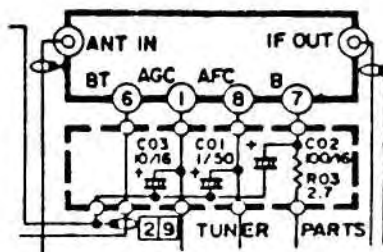
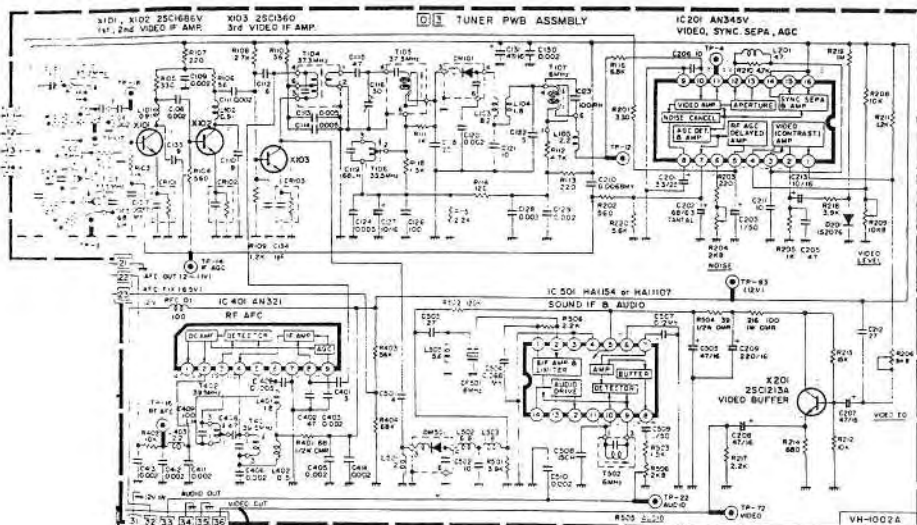

Fig.1 TUNER CONNECTIONS
Fig 2 Tuner PWB Assembly (IF).
Fig.1 shows the connections to the tuner and Fig.2 the circuit of the Tuner PWB Assembly (IF panel). The tuner board is easily recognised by the pre-set controls labelled Video Equ., Noise, Video Level and Audio. Adjacent to the smaller of the two screening cans is a four pin connector labelled 11, 12, 13 & 14. The plug connected at this point will have a red lead (+12v), a yellow lead (AGC) and a phono plug (IF). The red and yellow leads are soldered to the appropriate connections on the tuner unit as listed below, and the phono plug connected to the phono socket on the tuner.